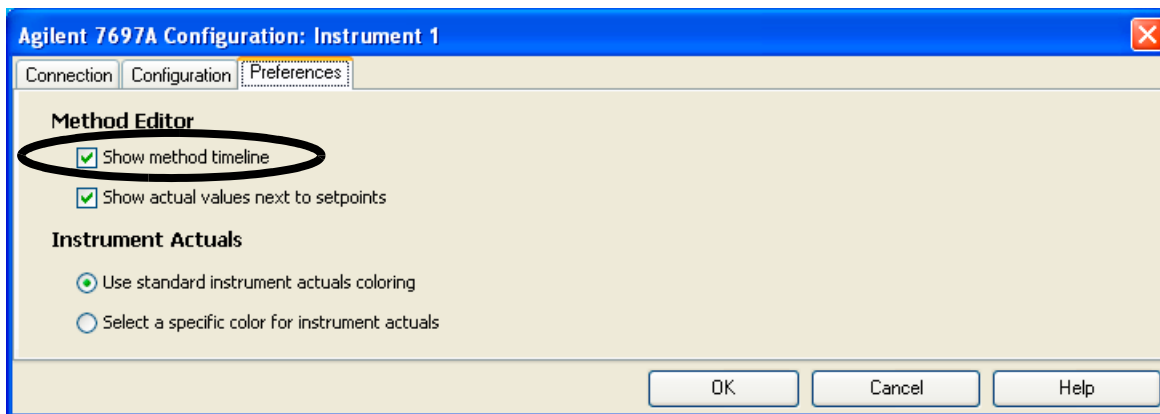

**Figure 11** Setting the Method Editor and Instrument Actuals preferences
- 5 Select the **Preferences** tab (Figure 11) to configure the Method Editor and Instrument Actuals preferences.